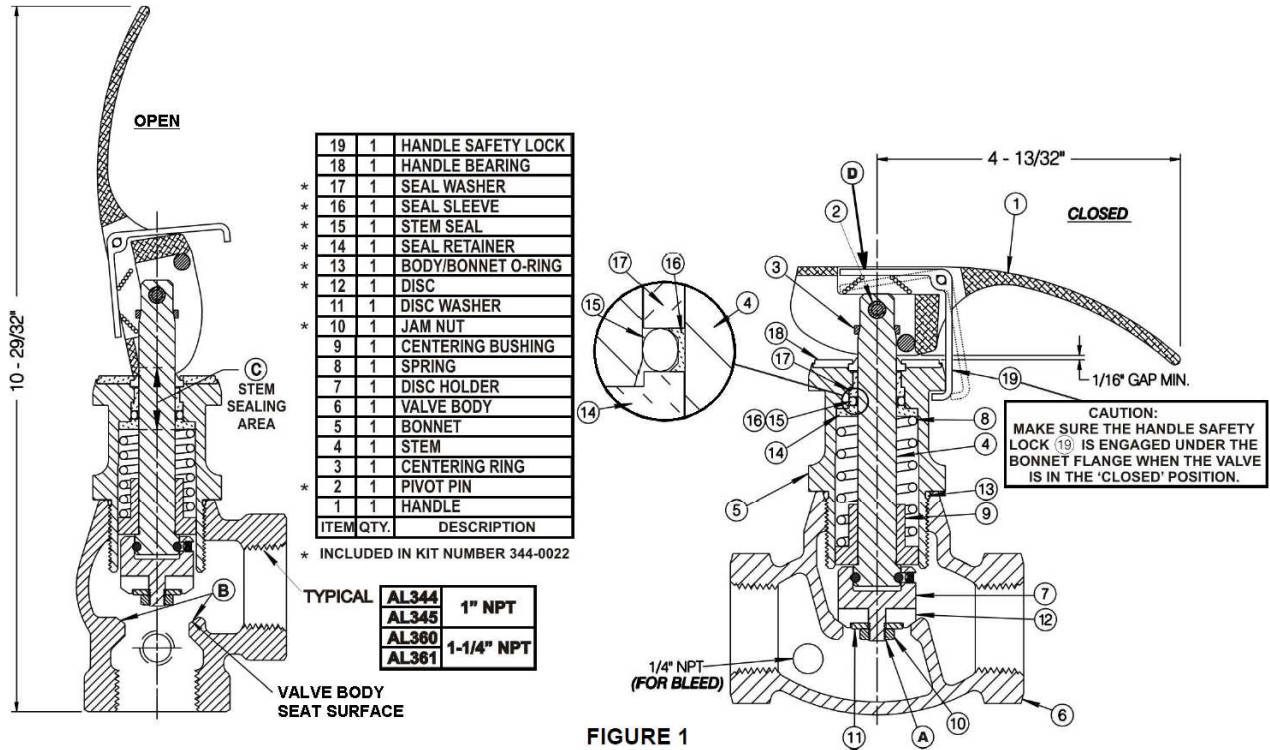

FIGURE 1
REFER TO FIGURE 1 FOR THE FOLLOWING STEPS:
2. The Valve to be repaired must be in the CLOSED position, as shown in Figure 1. Make sure that all product has been removed from the system prior to any disassembly.